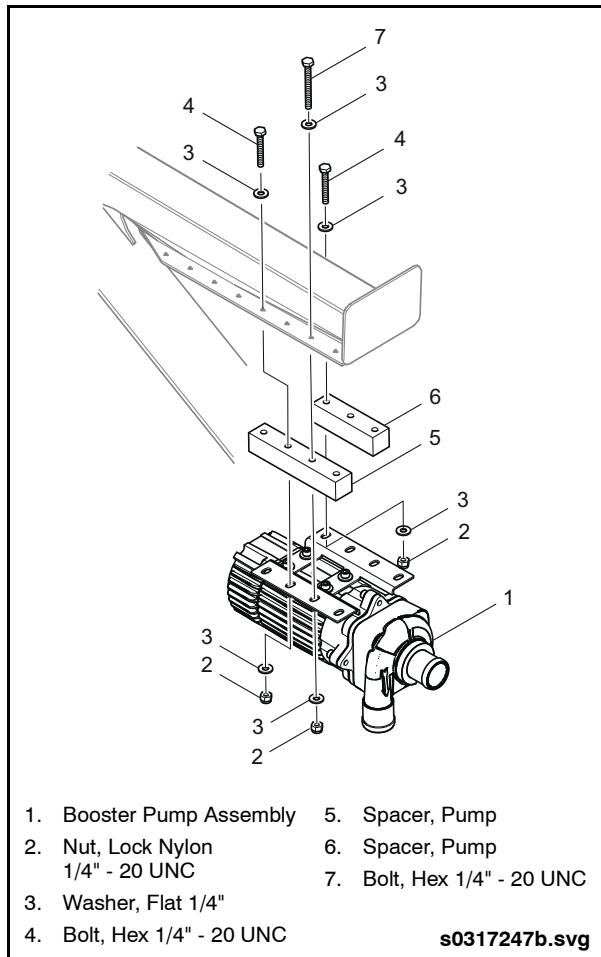

Fig. 10-13: Booster Pump Installation
2. Disconnect electrical leads from motor. See "Fig. 10-13: Booster Pump Installation" on page 40.